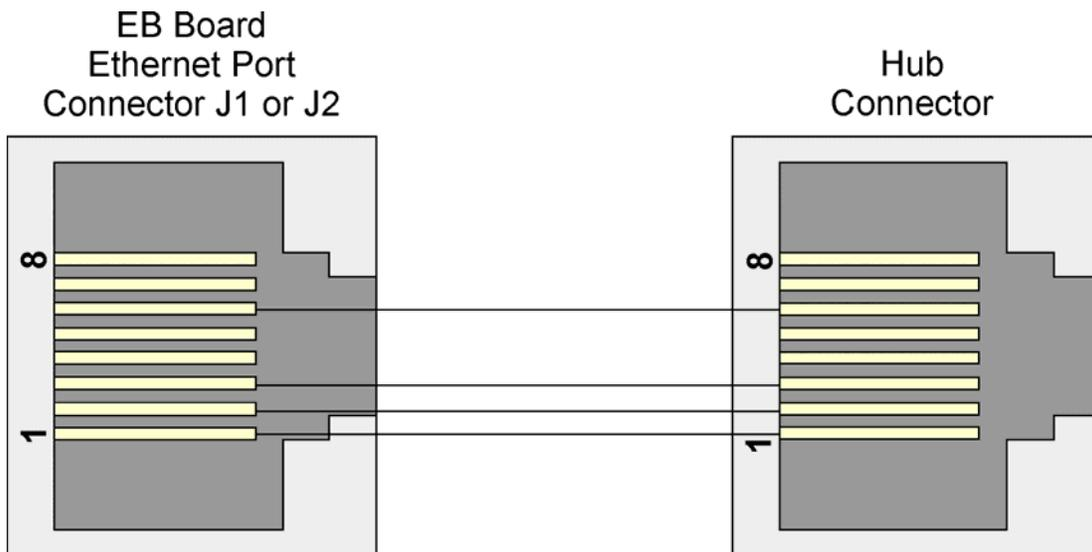

Figure 7 - Standard 10/100Base-T Ethernet Cable (CPU Board to Hub)
8-pin 10/100Base-T Connectors J1 and J2 typically provide connection to a twisted pair Ethernet via an Ethernet Hub. Both ends of the Ethernet cable are equipped with modular RJ45 connectors. A typical hub provides eight (8) 10/100Base-T RJ45 ports (with port 8 having the capability to link to another hub or to an Ethernet communication port. The cable used between a CPU Module Convergence Expansion Board's Ethernet 10/100Base-T connector and an Ethernet Hub has a one-to-one wiring configuration as shown in Figure 7. Table 6 provides the assignment and definitions of the 8-pin 10/100Base-T Connector P2.